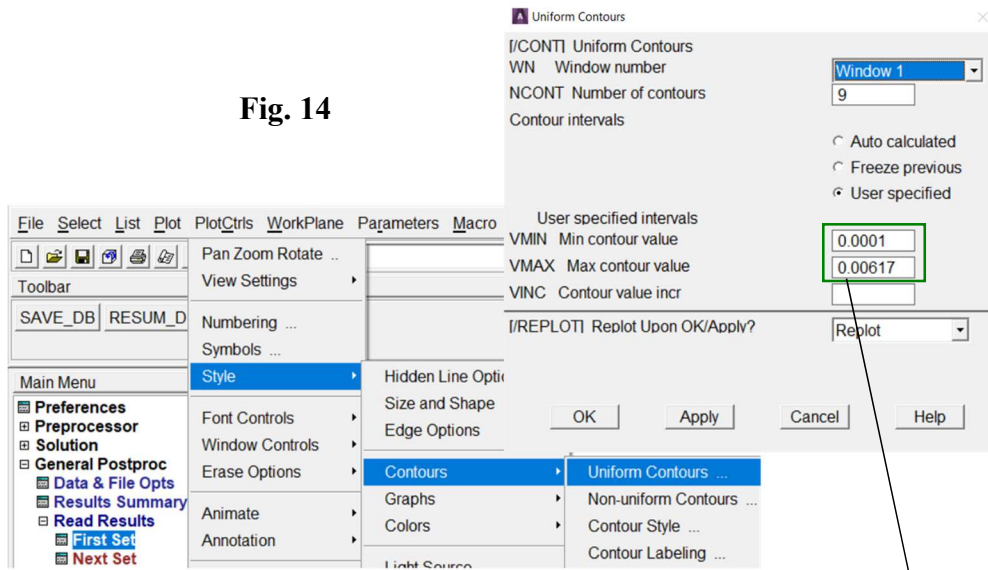
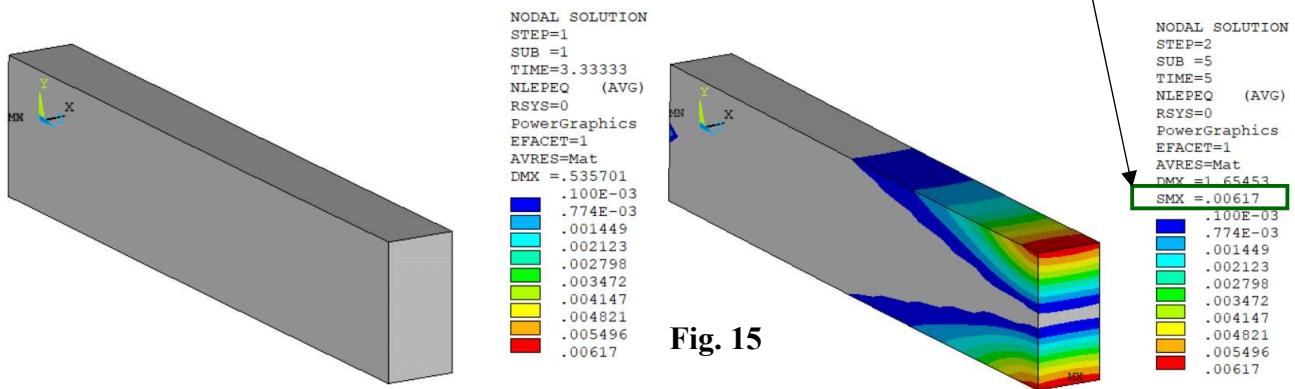

Fig. 14
Fig. 15
12. Set a user specified range of the contour scale (Fig. 14). Plot and save as images contour maps of the equivalent plastic strain NLEPEQ at the end of the first and second load steps (*Main Menu>General Postproc>Plot Results>Contour Plot>Nodal Solu>Plastic Strain>Equivalent plastic strain ...*) (Fig. 15). Fill Table 1.